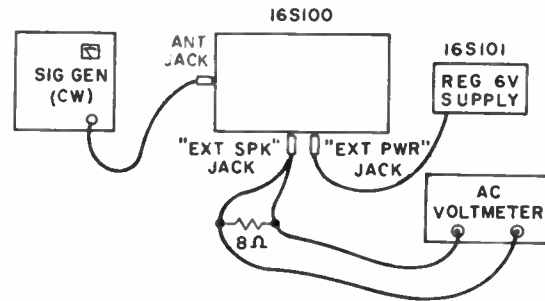

Figure 4—Test setup for Sensitivity measurement
1. Connect the test equipment as shown in Fig. 4.